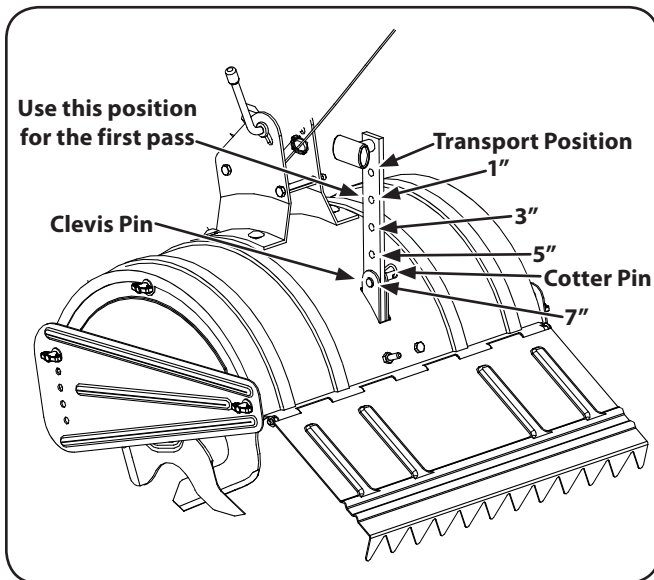

Figure 5-1
1. When using the tiller for the first time, use the second adjustment hole from the top (1" of tilling depth). See Figure 5-1.
6. To adjust the depth stake, remove the clevis pin and hairpin clip. Move the depth stake to the desired setting and secure with the clevis pin and hairpin clip. See Figure 5-1.